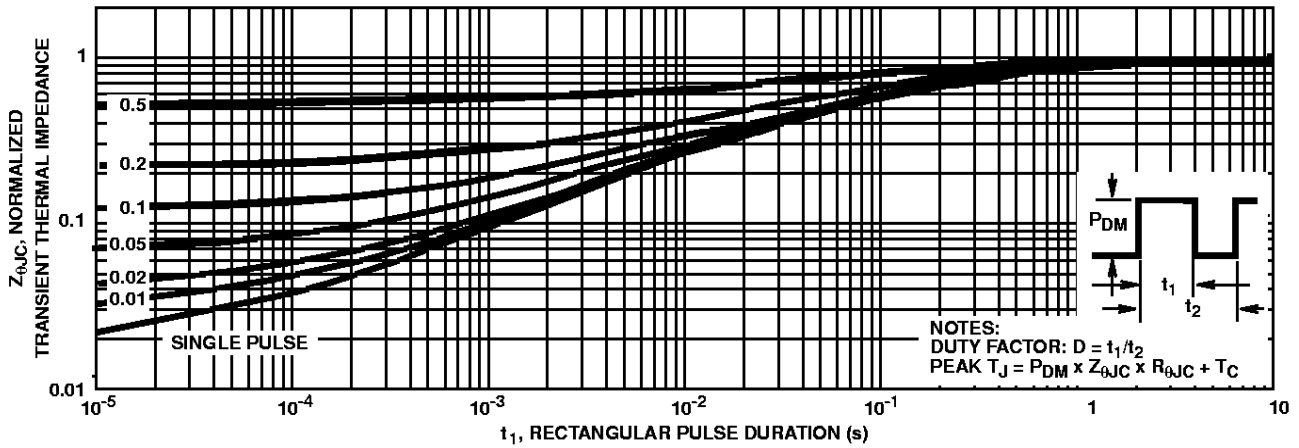

FIGURE 3. MAXIMUM TRANSIENT THERMAL IMPEDANCE
- Repetitive Rating: Pulse width limited by Max junction temperature. See Transient Thermal Impedance curve (Figure 3).